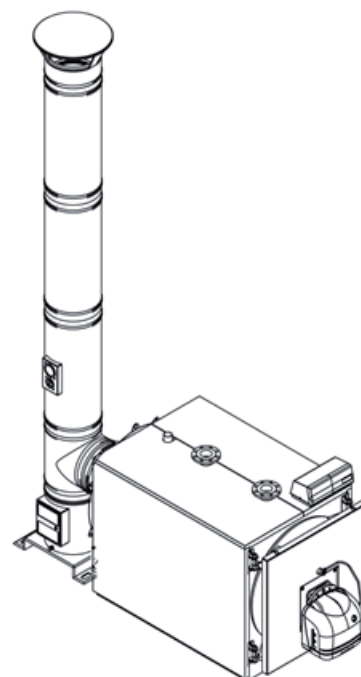

fig. 8
5.4 Discharge of combustion products (Fig. 8)